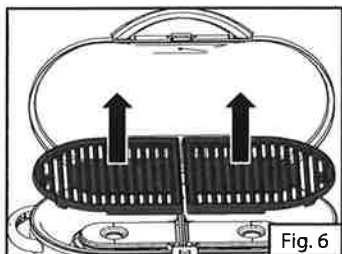
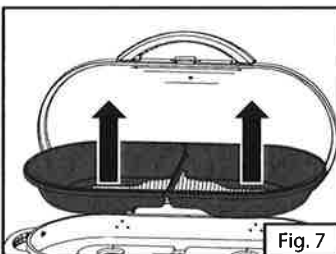

Fig. 6
Fig. 7
4. Remove the cooking grates and the cooktops and set aside. (Fig. 6 and Fig. 7)